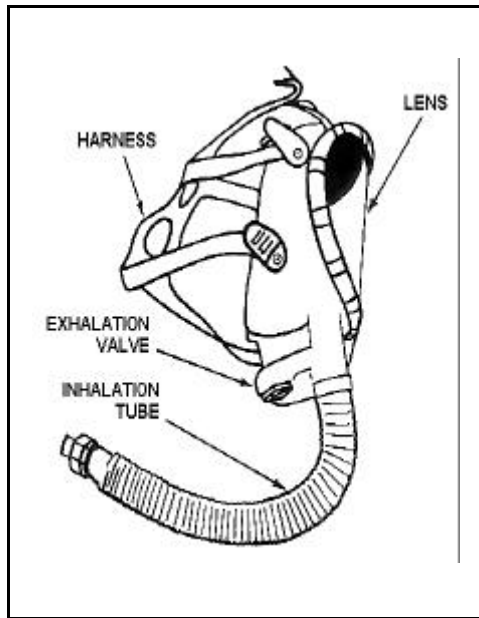
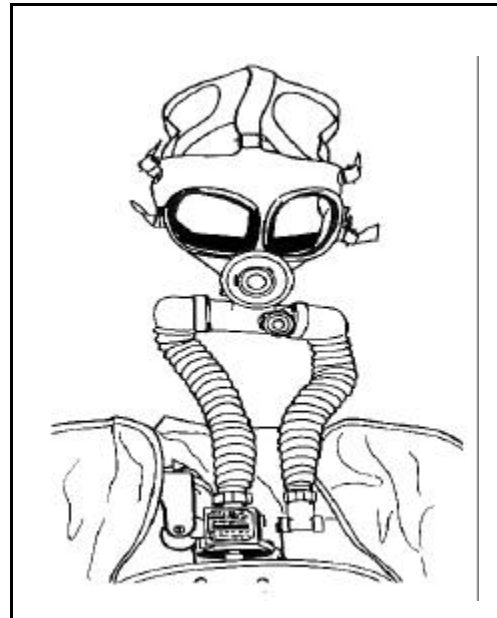

Figure 11-34. Single Hose Facepiece
Figure 11-35. Dual Hose Facepiece
11-155. The facepiece is an assembly that fits onto the face of the person using the breathing apparatus. The facepiece forms a tight seal to the face and transmits air or oxygen to the user. The standard facepieces (Figure 11-34 and Figure 11-35) are shown with the breathing apparatus covered in this paragraph.
- **Exhalation valve.** The exhalation valve on a single hose facepiece (Figure 11-34) is a simple one-way valve. It consists of a thin disk of rubber, neoprene, or plastic resin, secured in the center of the facepiece. It may be contained in a hard plastic mount located at the front of the chin area. The exhalation valve, commonly referred to as the “flutter valve,” releases exhaled breath from the facepiece.
- **Flexible tubes.** The flexible inhalation tube carries fresh air or oxygen to the facepiece. In the facepiece with dual hoses (Figure 11-35), the exhalation tube returns exhaled breath from the facepiece to the canister. The inhalation and exhalation valves controls airflow through these tubes. Like the facepiece, the flexible tubes are made of oil-resistant rubber, neoprene, or plastic resin. In use, the tubes must be kept free and unkninked for the proper flow of air. Avoid all unnecessary strain on these tubes. If they become tangled in any way, they must be freed carefully. DO NOT pull them free.